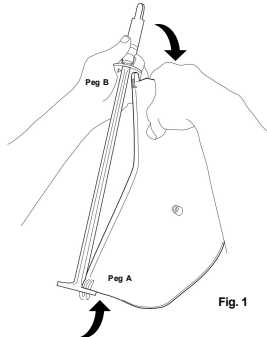
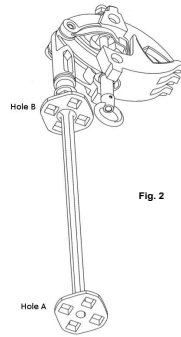

Fig. 1
Fig. 2
- 1) Insert "Peg A" (Fig.1) into "Hole A" (Fig.2)
- 2) Apply downward pressure to "Peg B" (Fig.1) to slightly curve fin and insert "Peg B" into "Hole B" (Fig.2)